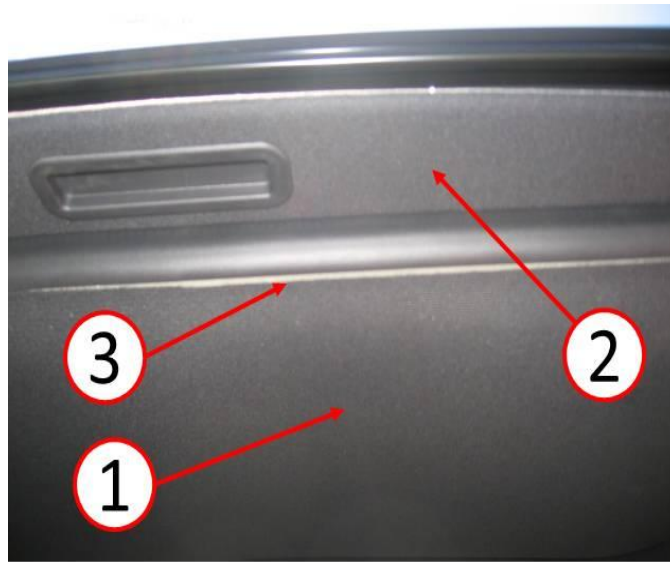

Fig. 1 Headliner Gap
1. Is the headliner sagging at the area identified in (Fig. 1)?